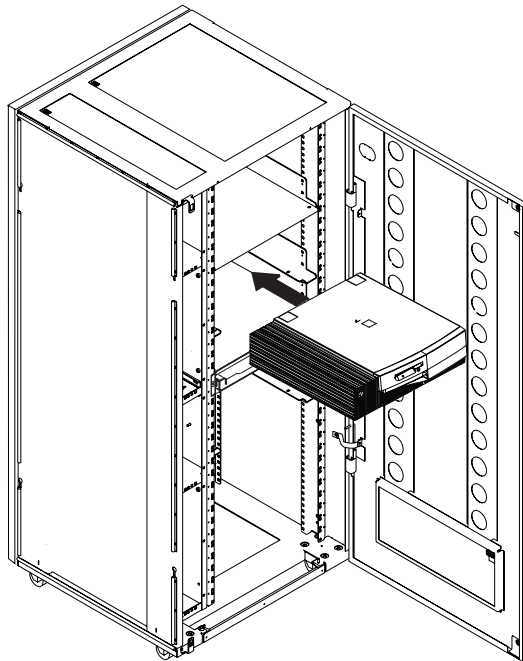

Figure 1-10. Installing the Service Processor Unit in the Controller Expansion (Front Side)
13. ____ Slide the service processor unit on the brackets as shown in Figure 1-10, then go to step 15 on page 1-15. If you have any problem to slide the service processor into the controller expansion refer to “Installing the 6275 into the Controller Expansion” on page F-11, then go to step 15 on page 1-15.